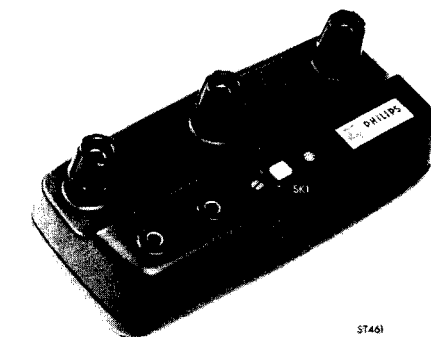

Fig. 6. Shunt PM 9244
3.2.4. Shunt type PM9244 (fig. 6)